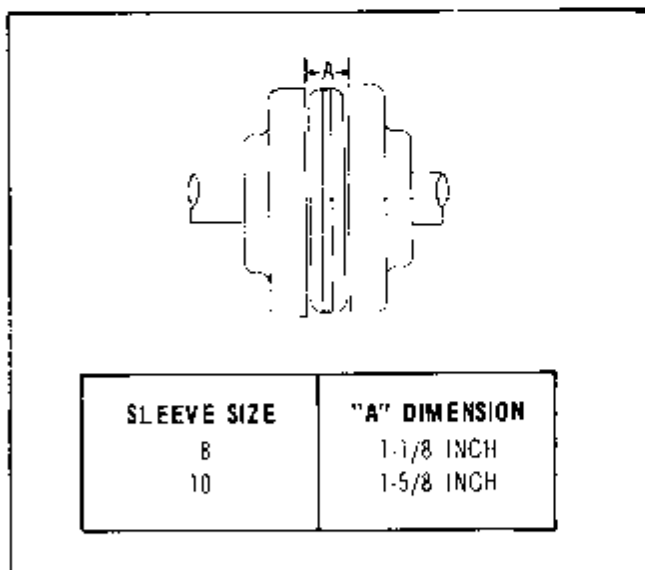

FIGURE 22
1. The coupling flanges should be positioned on the shafts to achieve the "A" dimension shown in Figure 22. There should be an equal length of shaft extending into each flange.